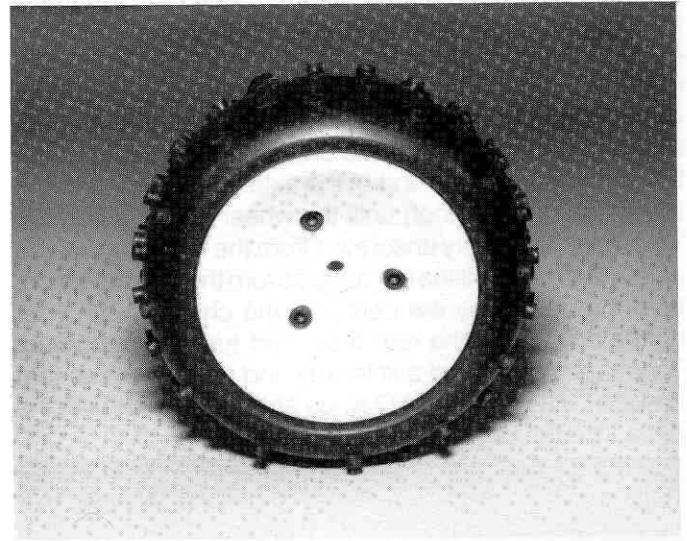

Fig. 155
□ **Fig. 155** Now take the outside half of the #6804 rear wheel (with the small center hole) and slip it inside one side of the tire as shown. Make sure it is centered and fully seated in tire. (Ignore the screws shown in the photo; we will put them in later.)